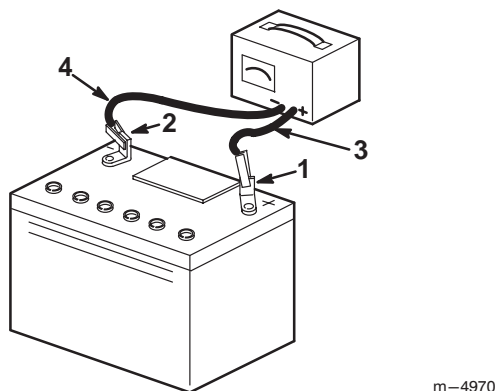

Figure 27
4. When the battery is fully charged, unplug the charger from the electrical outlet, then disconnect the charger leads from the battery posts (Fig. 27).